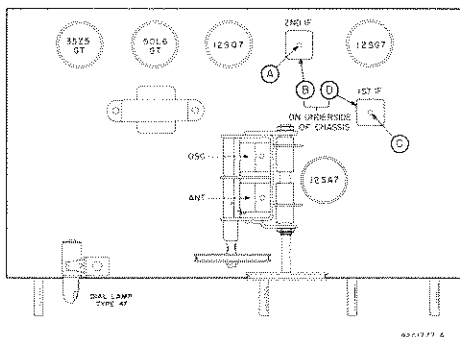

Fig. 5. Top View of Chassis Showing Location of Alignment Adjustments, Tubes and Dial Lamp.
- See Figs. 5 and 6 for location of alignment adjustments.